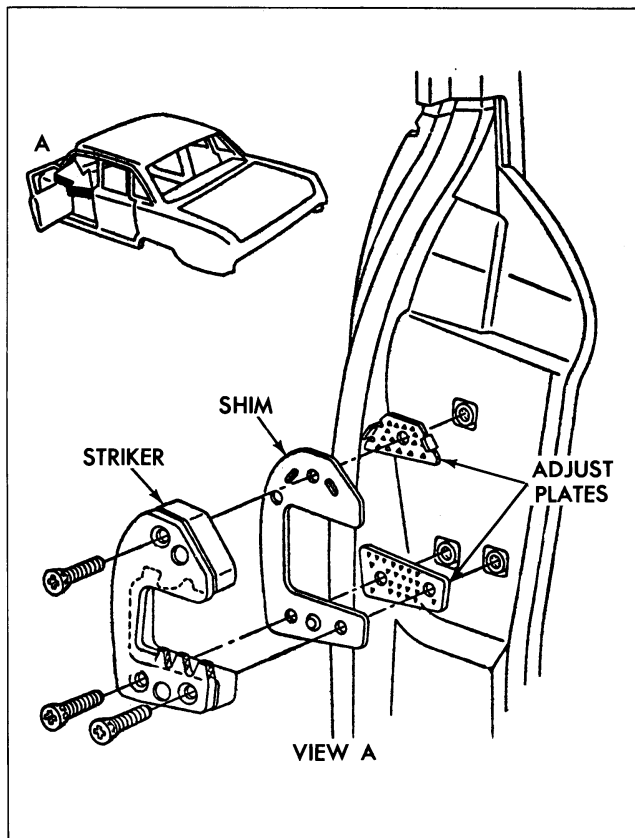

Fig. 3-47 Door Lock Striker
2. Remove three door lock striker attaching screws and remove striker and adjusting plates from pillar (Fig. 3-47).